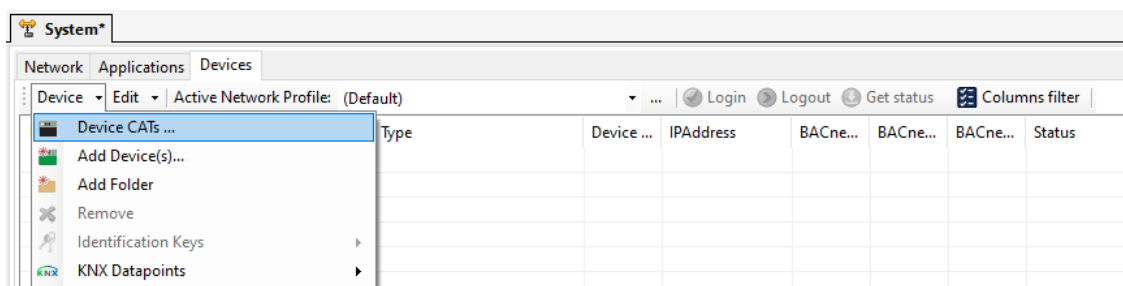

Figure 53: Create device resources in the system.
20. Select the **Devices** tab. Then click on the **Device** dropdown and choose **Device CATs...** in order to create the device resources (see Figure 53).